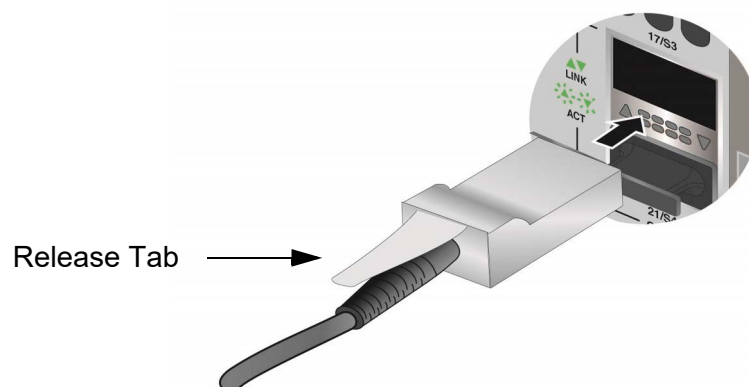

Figure 85. Sliding the AT-QSFPCU Cable into the Slot
2. Orient the connector on the AT-QSFPCU Cable with the release tab on top and slide it into the slot until it clicks into place. Refer to Figure 85.